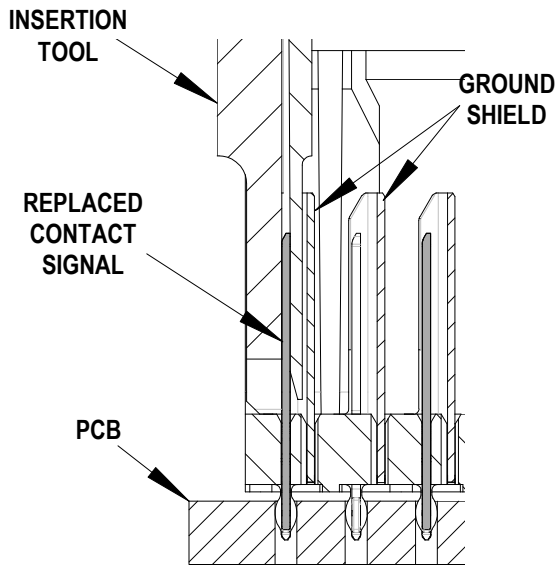

Figure 2
4. Make sure the signal contact is in the correct orientation. Check the column where the repair signal contact is being replaced and compare the column to the contact signal on the insertion tool. The two should be the same. The adjacent column is oriented in the opposite direction. See Figure 2.